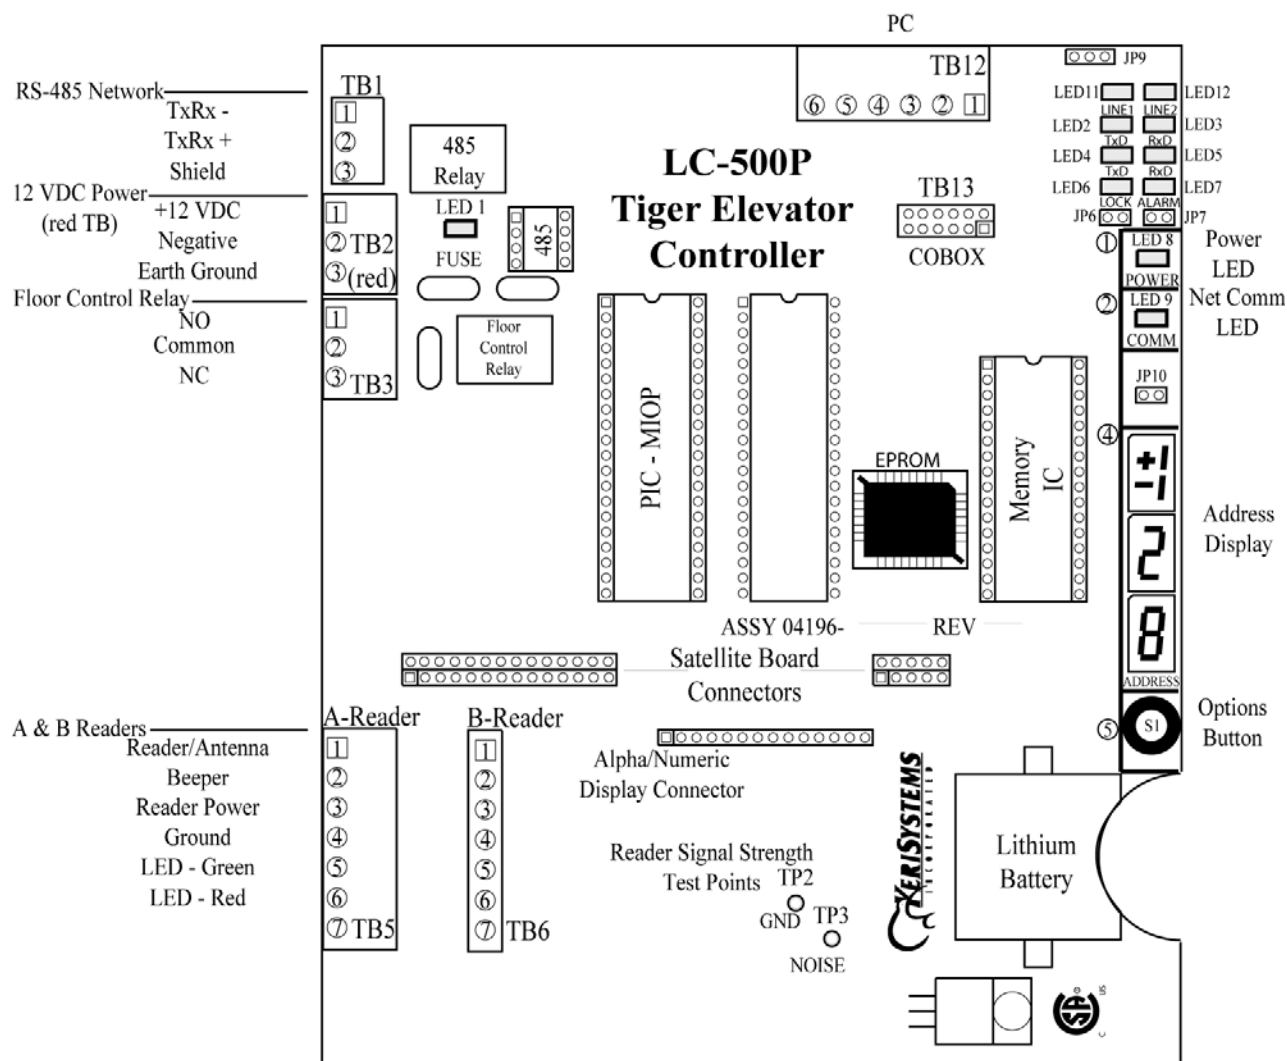
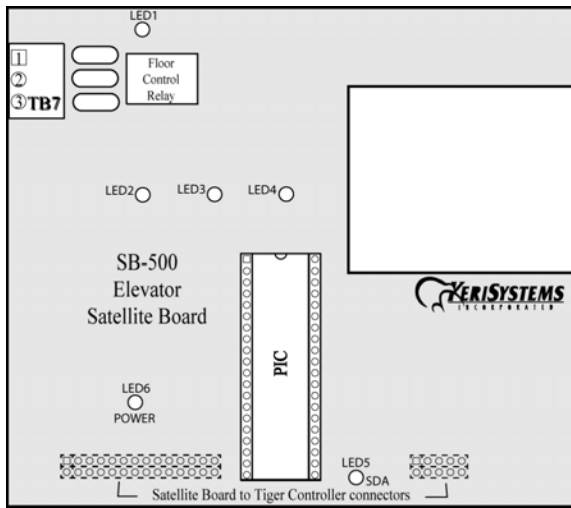

Figure 1: The LC-500P Elevator Controller
Figure 2: The SB-500 Satellite Board
- Refer to Figure 1 on page 7 and Figure 2 on page 8 when reviewing the information throughout Section 5.2 beginning on page 10.